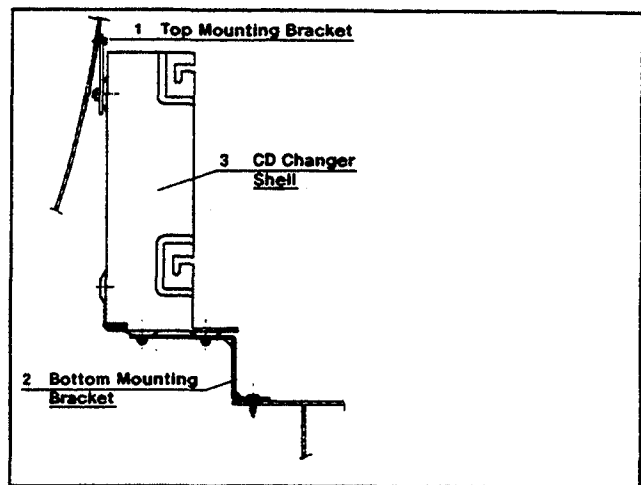
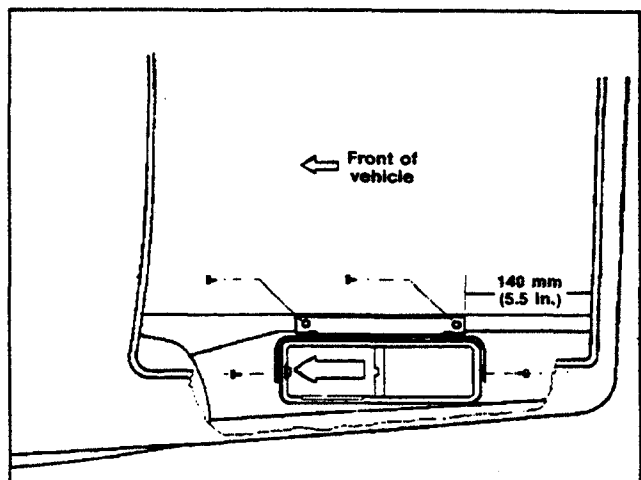

Figure 1
Figure 2
3. Using the bottom mounting bracket (2, Figure 1) as a template, place it at the left hand side edge of the spare wheel compartment. The rear edge of the bracket should be 140 mm (5.5 in.) from the rear wall (carpeted) of the trunk (Figure 2).
6. Assemble the CD changer shell (1) and the bottom mounting bracket (2) using four 5x10 mm bolts (Figure 1).